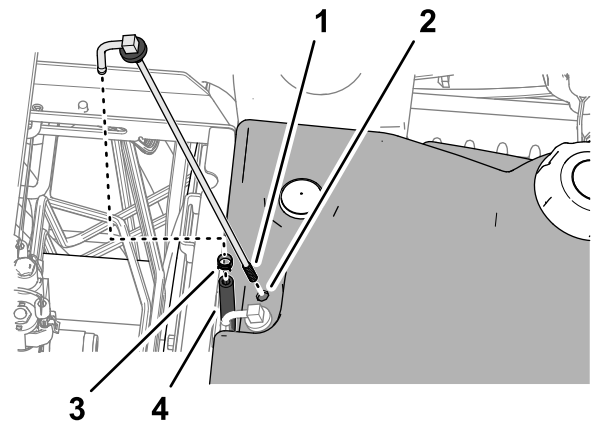

**Figure 120**
2. Align a drain container under the drain valve at the bottom of the fuel tank (Figure 120).